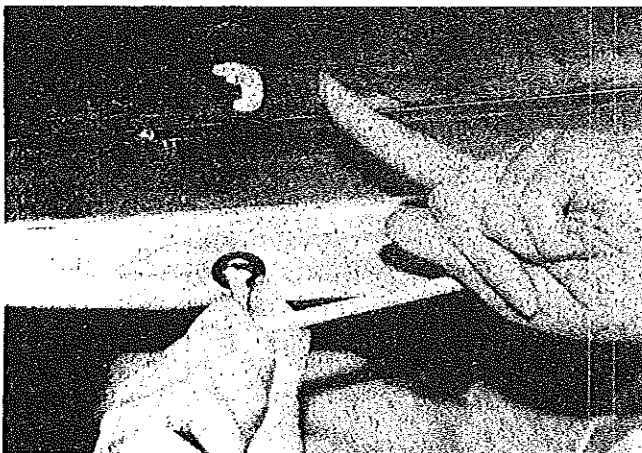

FIGURE 14
19. Pull the tent at the bottom over the bed edge and attach the exposed stretch cords to the nearest hooks on the underside of the bed. See Figure 14. Repeat for other bed end. Be certain to slide the stiffened tent fabric sections under the bed corners between the bed bottom and body rail top. These stiffened corners will prevent the entrance of insects drawn by the folding trailer interior lighting.